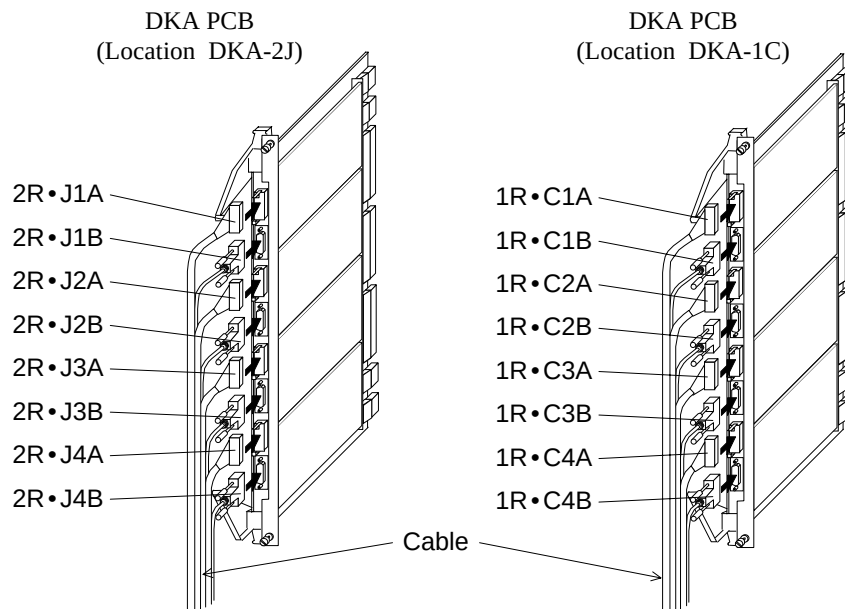

Fig.3.11.7-9 Connection of cable (Add.1)
a. Connect the cables to the sub-edge of PCBs. (Refer to Fig. 3.11.7-9.)